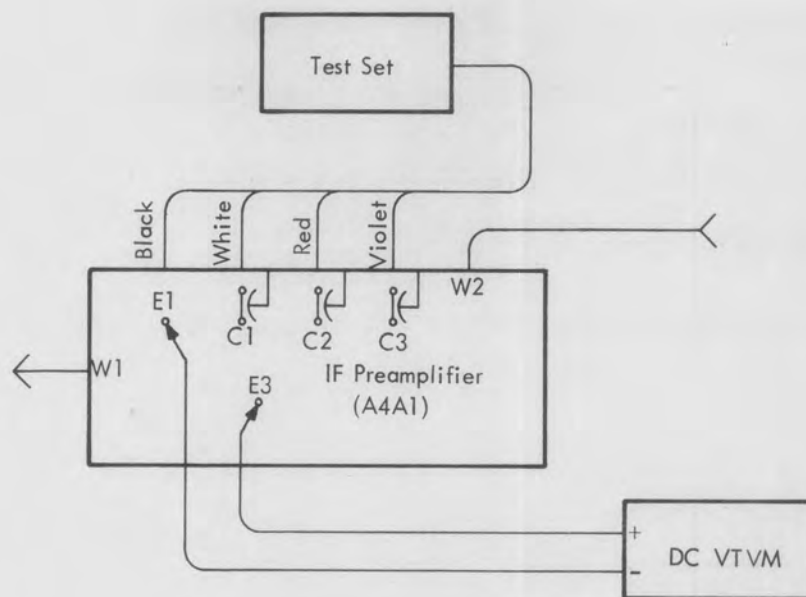

Figure 5-5. AGC Threshold Adjustment Setup
- (1) Connect test equipment as shown in figure 5-5. Set the test set AGC control to zero.
- (2) Connect dc vtm between ground and A1E3 of A4.
- (3) Adjust A2R4 for a +3V indication on the vtm.